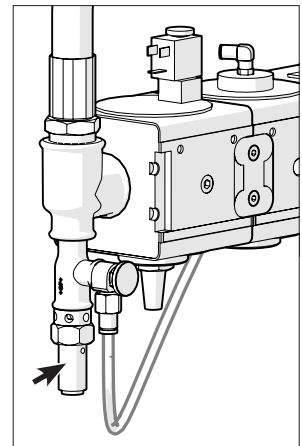

Fig. 2: Safety valve
- In the air outlet of the maintenance unit for the proportioning pump (see Fig. 2),